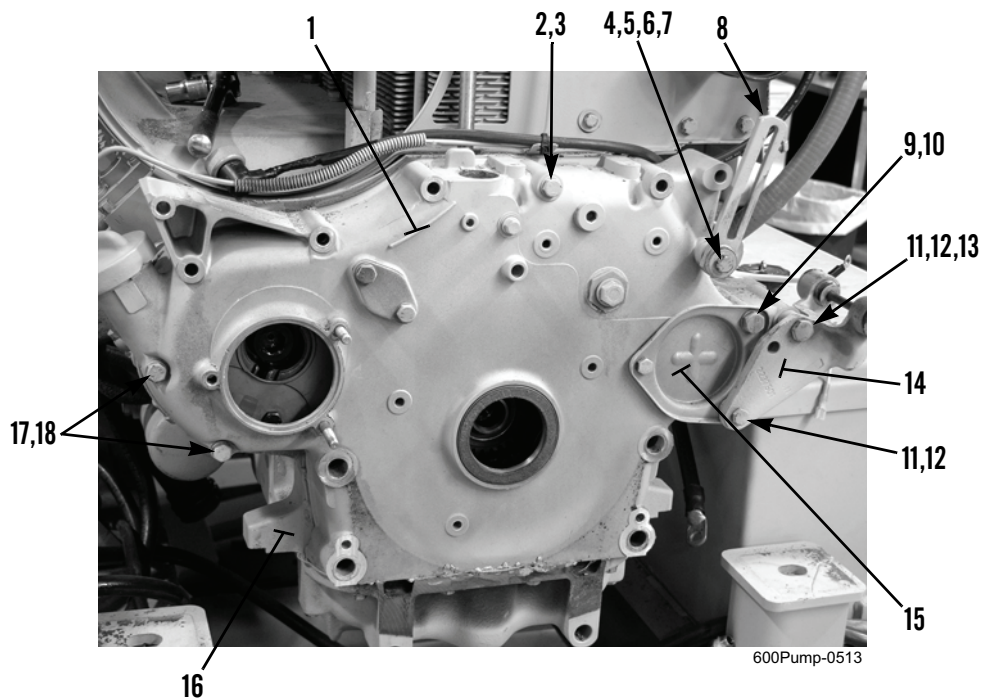

Figure 10. Engine Front Cover.
3. Apply silicone RTV compound to front cover (Figure 10, Item 1). Install front cover, two washers (Figure 10, Item 18), and bolts (Figure 10, Item 17) on engine block (Figure 10, Item 16). Tighten bolts to 15 to 18 lb-ft (20 to 24 Nm).
4. Install washer (Figure 10, Item 10) and bolt (Figure 10, Item 9) on cover plate (Figure 10, Item 15).
5. Install alternator support bracket (Figure 10, Item 14), two spacers (Figure 10, Item 12), bolts (Figure 10, Item 11), and nut (Figure 10, Item 13) to front cover (Figure 10, Item 1).
6. Install alternator adjustment bracket (Figure 10, Item 8), spacer (Figure 10, Item 6), two grommets (Figure 10, Item 7), washer (Figure 10, Item 5), and bolt (Figure 10, Item 4) on front cover (Figure 10, Item 1).
7. Install washer (Figure 10, Item 3) and bolt (Figure 10, Item 2) on front cover (Figure 10, Item 1).